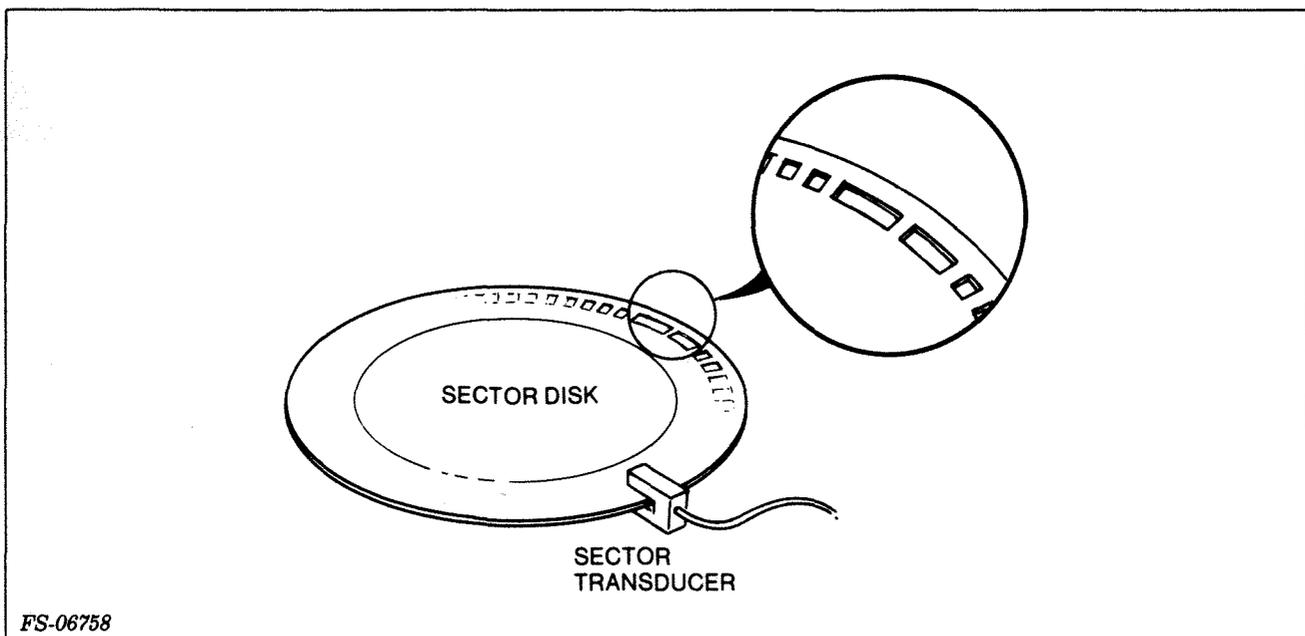

Figure 3-6. Sector Disk
3.4.2 Sector Transducer and Sector Disk - The sector disk is a separate disk, mounted below the recording disk. It has 688 evenly spaced holes around its outer edge. An optical sector transducer is mounted on the sector disk (see Figure 3-6). As the spindle turns, the holes on the sector disk alternately break the light path in the optical sector transducer. This causes the transducer to generate pulses to sense sector boundaries, monitor rotational speed, and provide a write data clock.